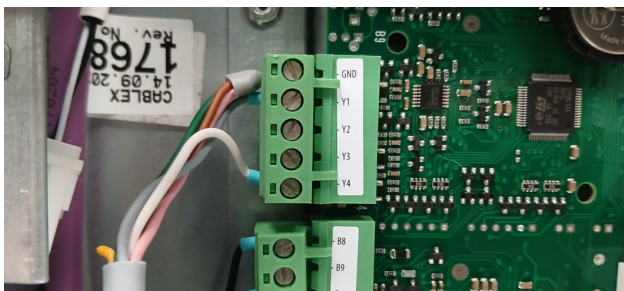

Fig. 70 : Remove PWM Loom
14. Remove PWM loom from wiring box. See Fig. 70.